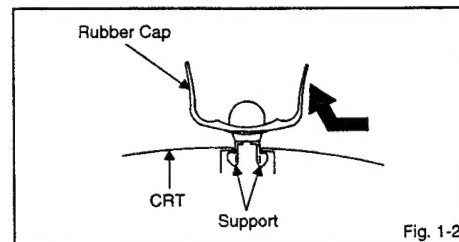

Fig. 1-2
2. Flip up the sides of the Rubber Cap in the direction of the arrow and remove one side of the support. (Refer to Fig. 1-2.)